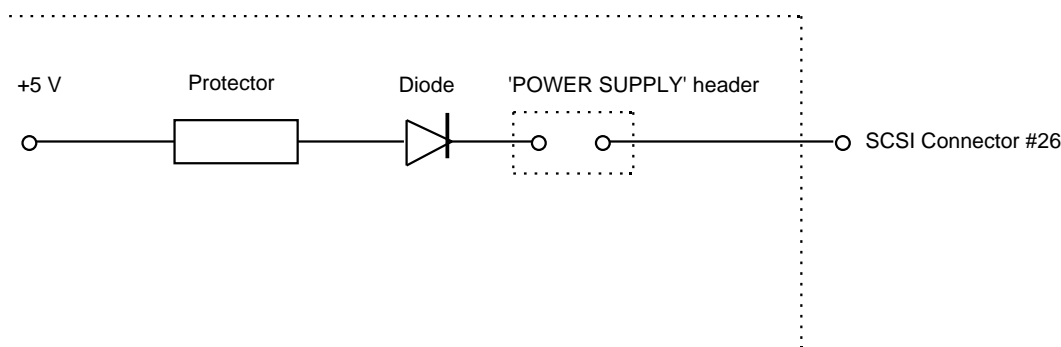

Figure 6 Power Supply Line
- (2) The power supply line has a protection inside of the drive to protect the power supply. This is shown in Figure 6